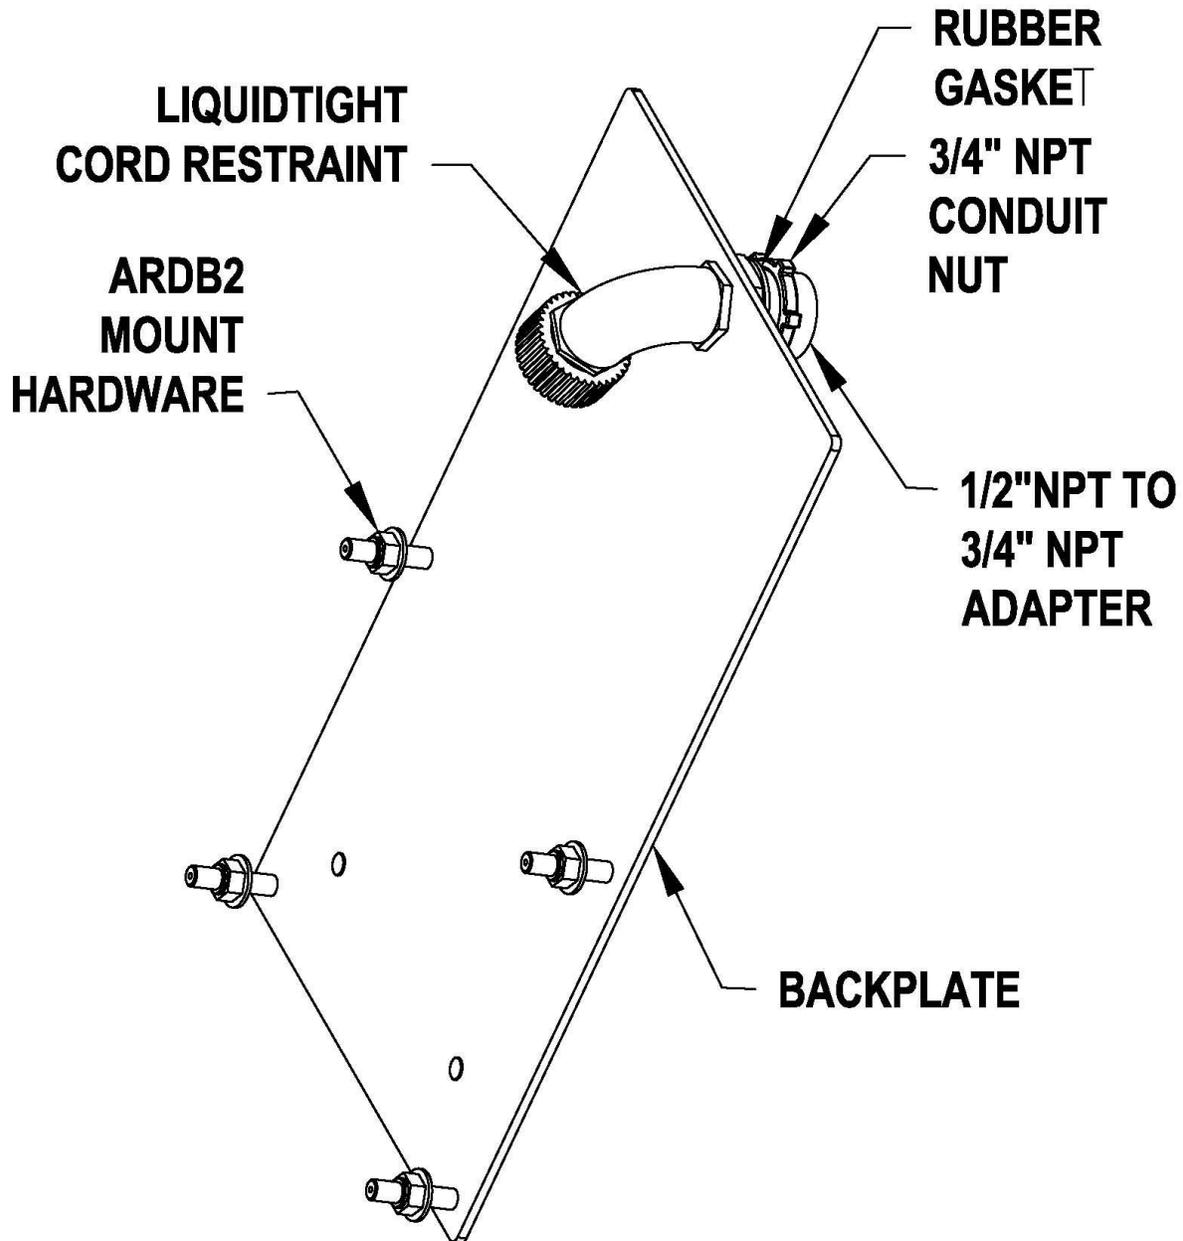

Figure D1 – ARDB2 to ARDB or MFDB Mounting Adapter (Part Number 1030-1636)
To install an ARDB2 2ND Gen. Breather on the control cabinet of an ARDB 1ST Gen or an MFDB Breather without making modifications, Connection Option #4 is required (see Figure D1 below for adapter kit components).
- h) NOTE: The remote alarm, five-conductor cable once attached to the ARDB2 needs to be connected separately to a monitoring system (see Figure D1, page 24), as the liquid tight cord restraint will not accommodate a second cable.